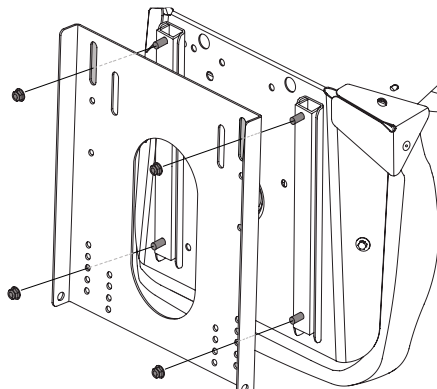

Figure 2-6
2. Using the four provided bolts (a), install the seat onto the seat pan. Place the screws (b) on the front of the seat through the middle hole in the seat pan (c) as shown in Figure 2-6. Securely tighten the seat to the seat pan.